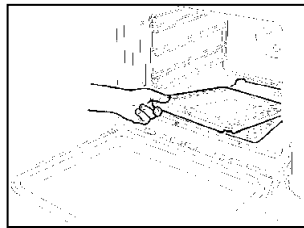

Fig 7
Remove the oven level (Fig.7).
- Loosen the screw **V** and pull out the burner from the support being careful not to damage the ignition plug and the thermocouple (Fig.7).